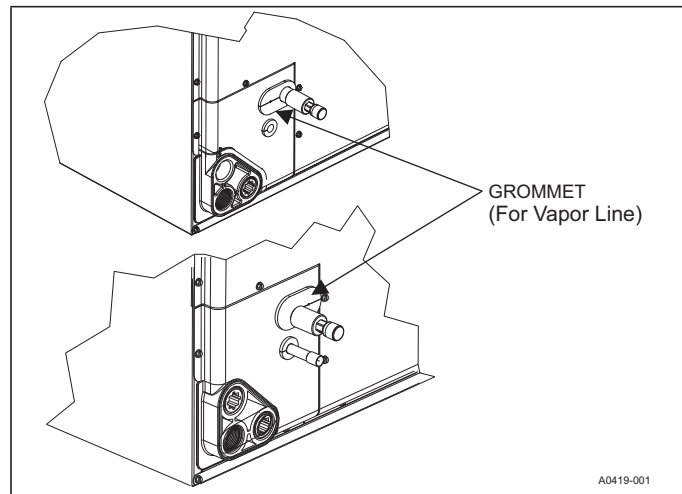

FIGURE 16: Vapor Line Grommet
2. Remove grommets where tubes exit the cabinet to prevent burning them during brazing. In some units, the vapor line grommet may be shipped as a loose part with the unit. Refer to Figure 16.
13. Re-attach the grommets to the lines carefully to prevent air leakage. In some units, the vapor line grommet may be shipped as a loose part with the unit. Refer to Figure 16.